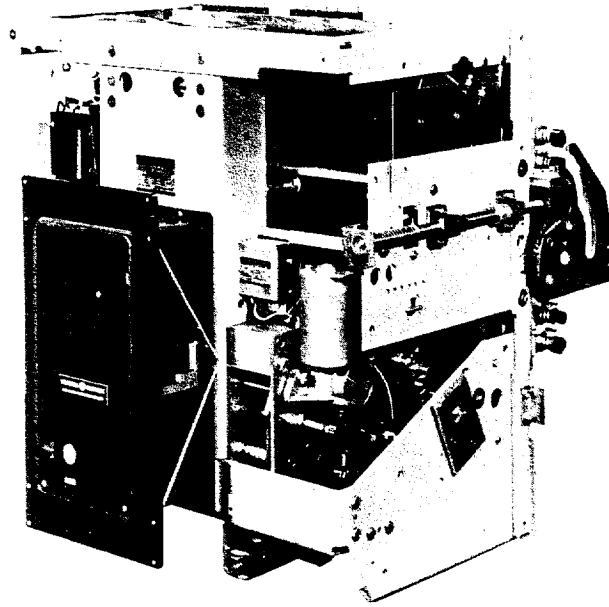

FIG. 6 AKR-9D-75 ELECTRICALLY OPERATED (AKD-8-TYPE)
5.6 CODE D (AKD-8 SWITCHGEAR) (Fig. 6)